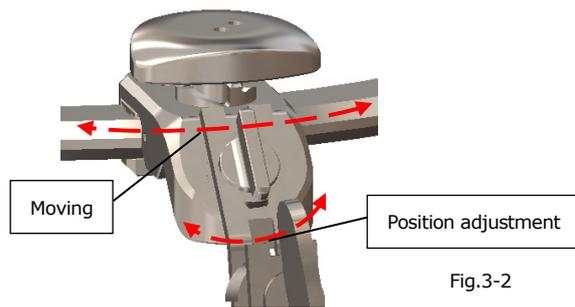

Fig.3-2
(3)-2 Move the Retractor Slide Adjustor II to the desired position (Fig.3-2).